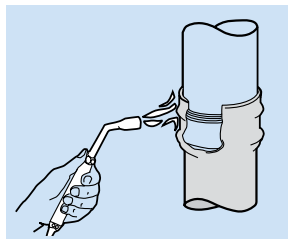

Fig. 69
- Heat gently with a gas torch/hot air gun, all round the socket starting at the base of the socket and working upwards (Fig. 69).